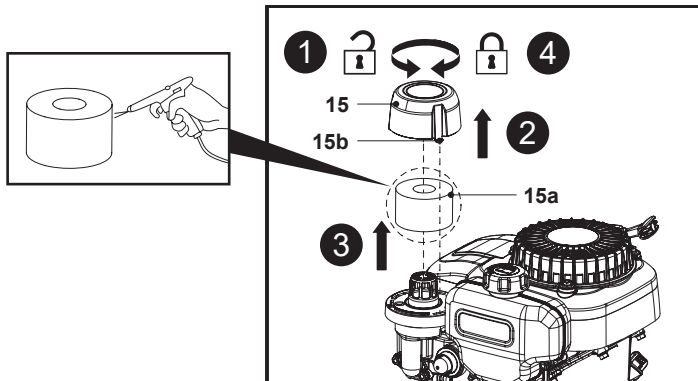

Fig. 23
2. Hold and rotate the air filter cover (15) anti-clockwise to disengage it, then remove it afterwards (Fig. 23, steps 1, 2).
3. Remove the air filter (15a) from the air filter base and tap it on a solid surface or blow it with air jet gun to remove dust (Fig. 23, step 3).
5. Align the three locking latches (15b) with the slots on the air filter base and refit the air filter cover (15), then rotate it clockwise to secure (Fig. 23, step 4).